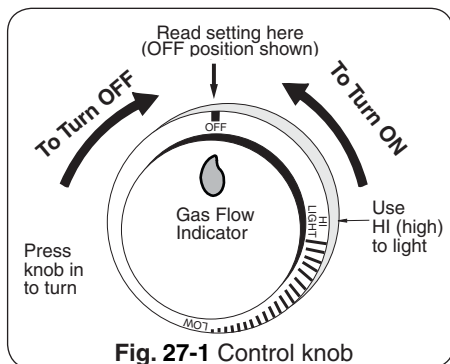

Fig. 27-1 Control knob
**For your convenience and safety; when the control knob is turned to the on position, the gas flow indicator will change from blue to red. (Red indicates gas flow.) See Fig. 27-1.**